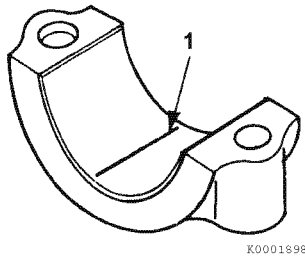

Figure 6-53
- 3- Place a piece of PLASTIGAGE® (Figure 6-53, (1)) along the full width of the bearing insert.